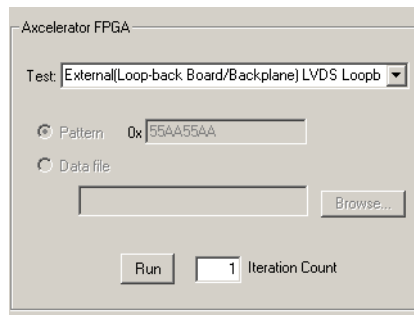

Figure 2-17. Running the Backplane Demonstration Test
1. **From the Test selection bar menu, select the External (Loop-back Board/Backplane) LVDS Loopback.** See Figure 2-17.